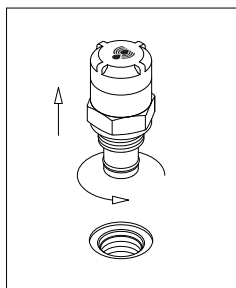

fig. 6
- (Fig. 6) Unscrew the indicator body
- (Fig. 14) Replace the O-rings of the indicator body. For the mounting/dismounting of the indicator, please refer to the paragraph "Clogging indicator replacement" above (Fig. 6÷7)